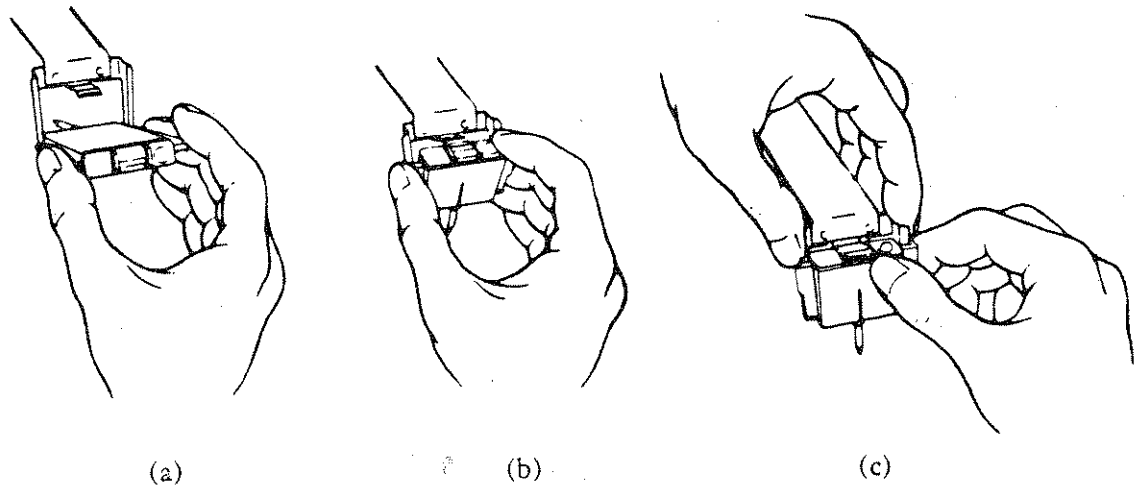

Fig. 5.5 Installing Pen, 1243
- C. Refer to Figs. 5.5 and 5.6 for installation of Model 1243 pens.